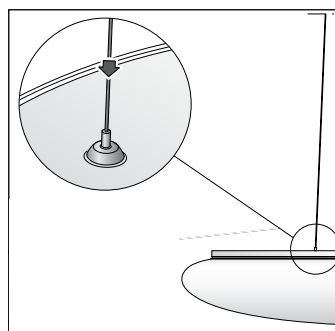

Figure 4: Cable Shortening
4. Push steel cable into the steel ball located at the pendant side of the luminaire. [Figure 4]